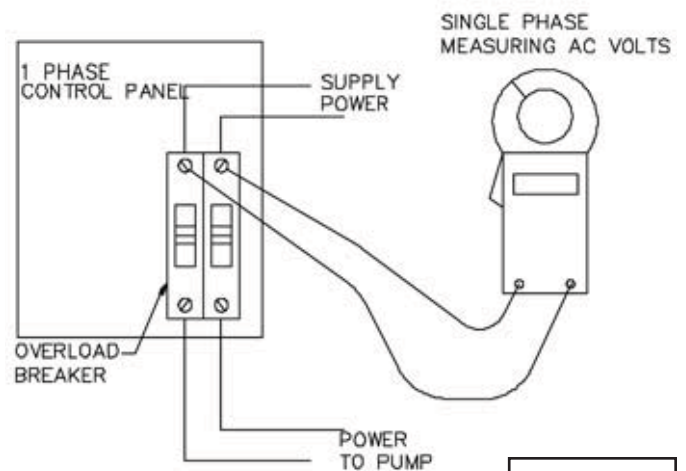

Figure 14
**Single Phase:** Check incoming voltage on the line side of the control panel circuit breaker. Readings of  $\pm 10\%$  of published voltage (nameplate) are acceptable. A true check of the voltage supply to the motor must be taken with the pump operating under load, (see Figure 14).